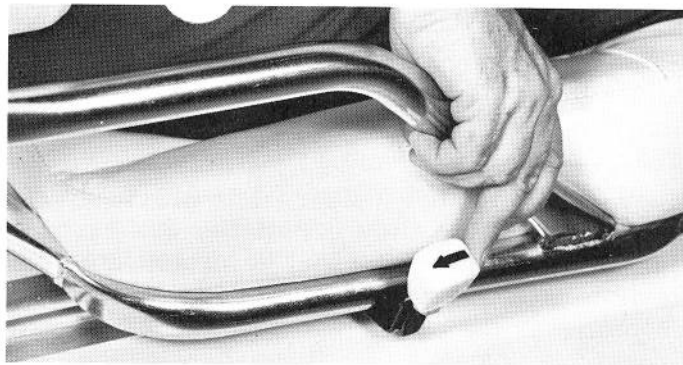
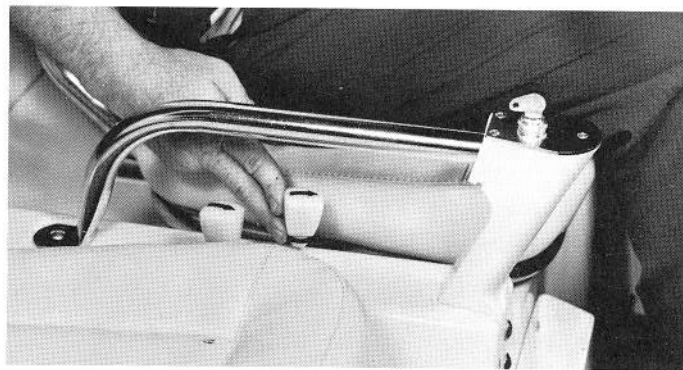

FIGURE 4
FIGURE 5
Your car is equipped with adjustable swivel seats. On the outside (entering end) of each seat is a lever that when pushed in the direction of the arrow will allow the seat to rotate 90° toward the opening (see figure 4). A second lever located on the inside of each seat will permit the seat to be positioned laterally four (4) different locations to suit each person's individual comfort (see figure 5).